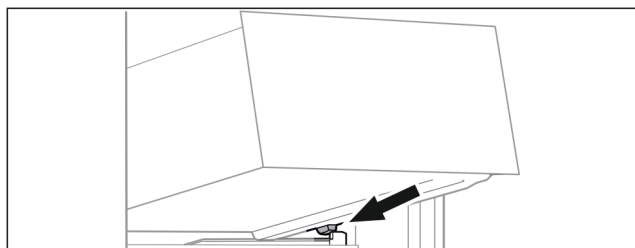

Fig. 96
- ▶ Place drawer at an angle behind the stoppers on the moulded rib. (see Fig. 96)